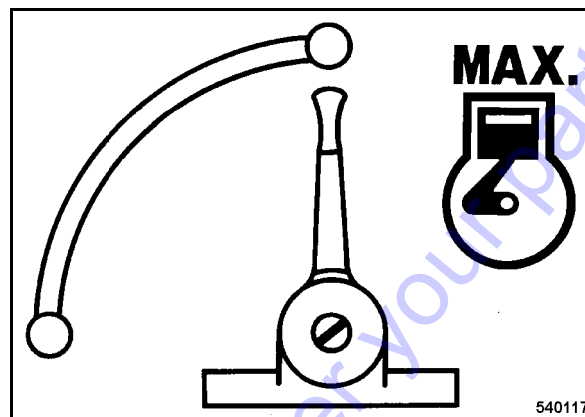

Fig. 9
- Set the throttle lever (Fig. 9) to position "MAX".